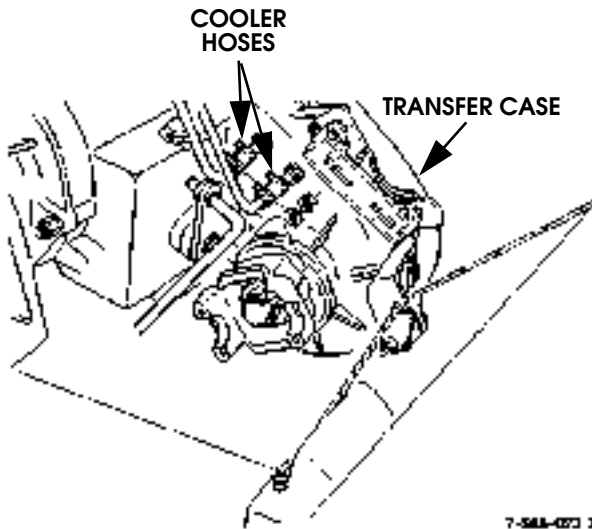

Figure 5-79: Cooler Hose Connections
6. Disconnect cooler hoses at transfer case (Figure 5-79).